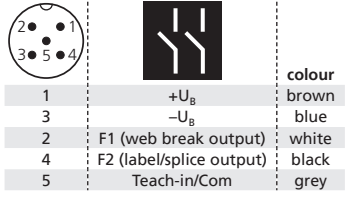

Fig. 1: Pin assignment and colour coding for microsonic connection lines
- ➔ Connect the connection cable using the 5-pin M12 connector as shown in Fig. 1.